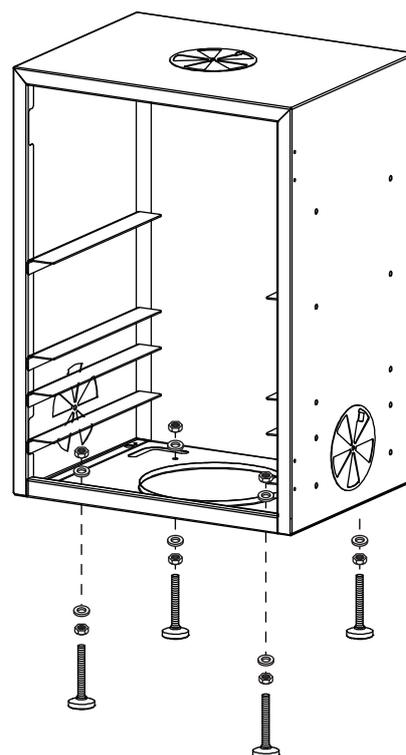

FIG. 7
1. Take a magnetic leg (11) and screw a large nut (H) and slide a large washer (D) 2" (50 mm) onto the magnetic leg. Insert the magnetic leg (11) into the "L" shaped slot in the bottom of the Sidekick Smoker (See Fig 7).
2. Add a large washer (D) onto the magnetic leg on the inside of the Sidekick Smoker (See Fig 7). Hand tighten a large nut (H) to secure to main body.